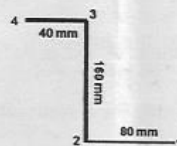

Fig.2
- (b) A thin walled section shown in Fig.2 is subjected moment about centroidal axes $M_x = 1200 \text{ N-m}$ and $M_y = 600 \text{ N-m}$. Thickness of top and vertical segments are same and is equal to 3 mm and that of bottom segment is 2 mm. Determine the stress at the points indicated using neutral axis method.